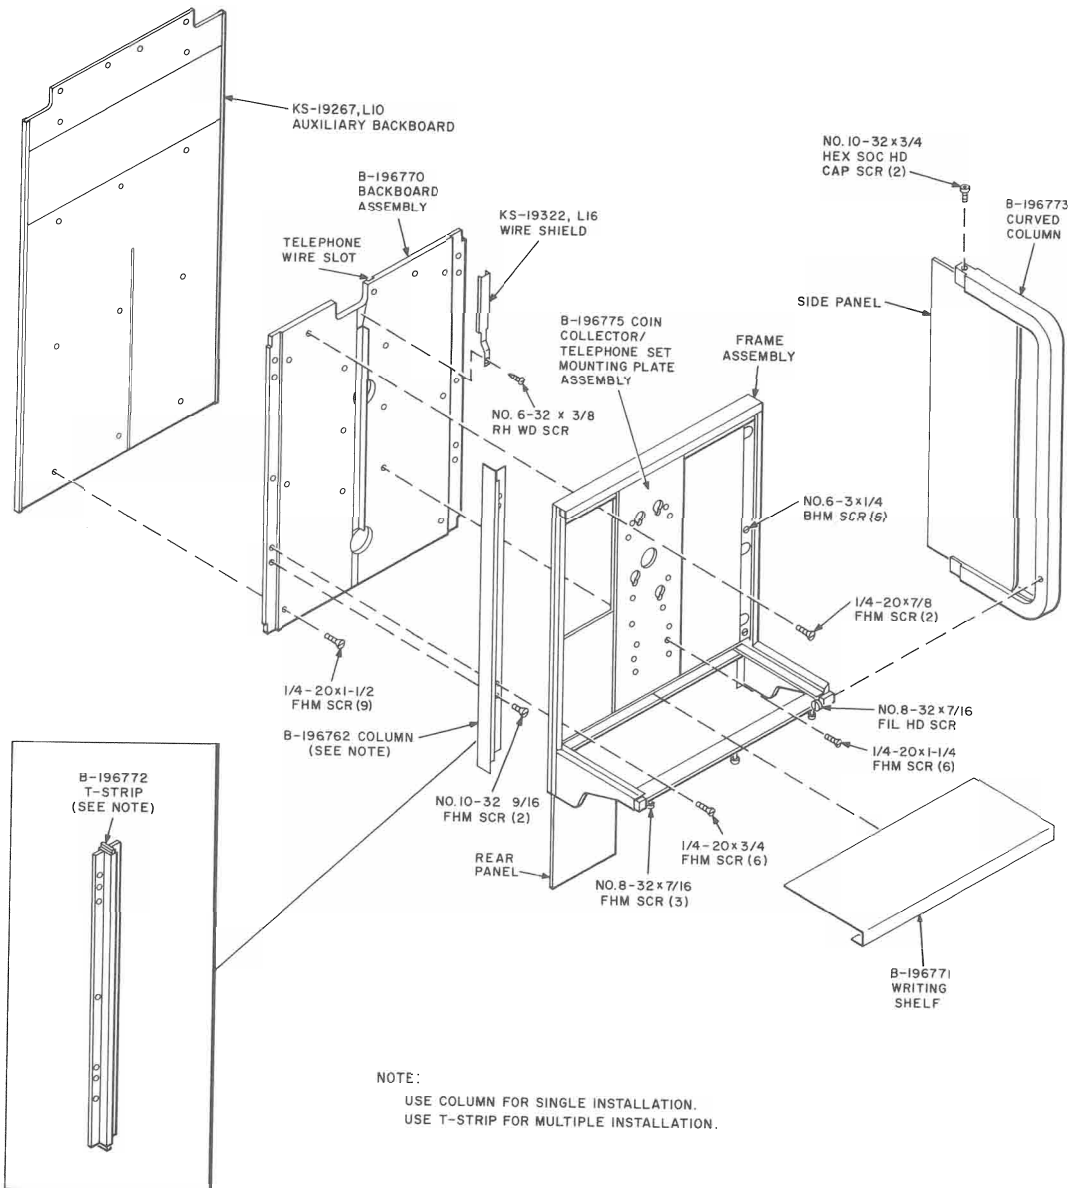

Fig. 7—Assembly of KS-19267 Shelf
3.03 Secure B-196770 backboard assembly to List 10 auxiliary backboard, if applicable, using nine 1/4-20 by 1-1/2 FHM screws (Fig. 7).
3.04 Install KS-19322 sign if applicable and cover exposed electric power cord between sign and shelf with KS-19322, List 16 wire shield (Fig. 7).
Where multiple units are installed, a B-196772 T-strip will be used to join two shelves together. This T-strip will replace the side column. T-strips are furnished as part of KS-19267, List 2 and List 4 shelf assemblies (Fig. 7).
- (b) Remove the following per Fig. 7:
4.06 Refer to Fig. 7, 8, and 9 and Tables A and B for replacement parts.